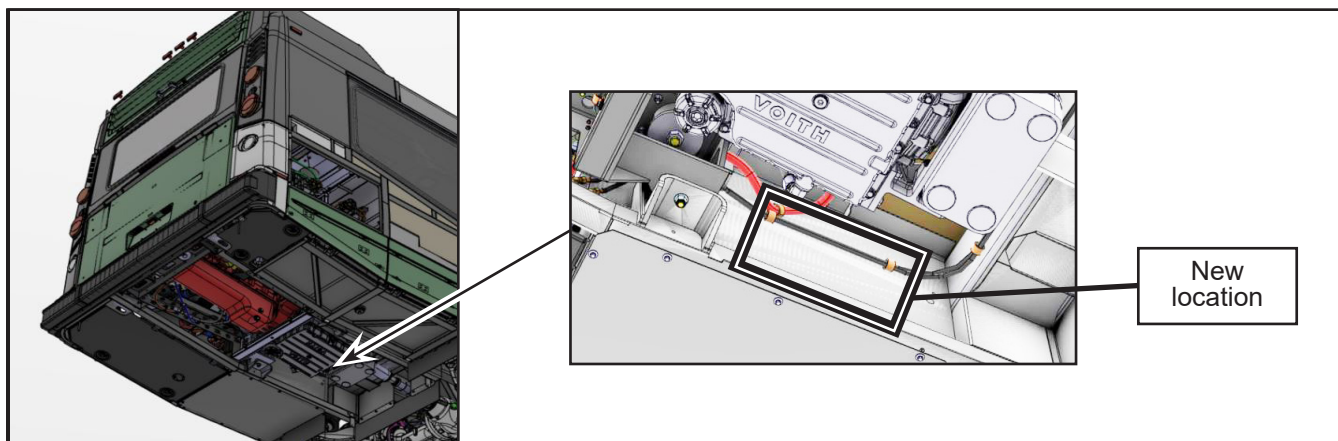

Figure 1 - New Location of the Auxiliary Heater Fuel Filter
- 1.5. Lift the vehicle. Locate the new location of the new fuel filter (Figure 1).